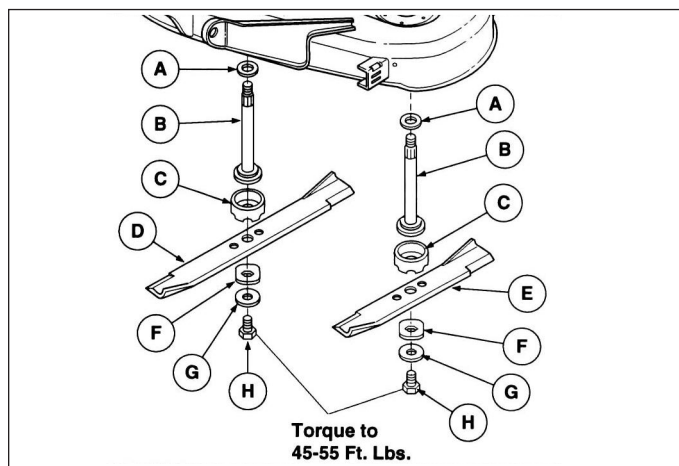

Figure 11a. Install High-Lift Blade - Later Models
2. Install the new high-lift blade (D, figure 11a) with the tabs pointing up toward the bottom of the deck. Secure with original hardware and torque capscrew (H) to 45-55 ft. lbs. (61-75 N.m.).